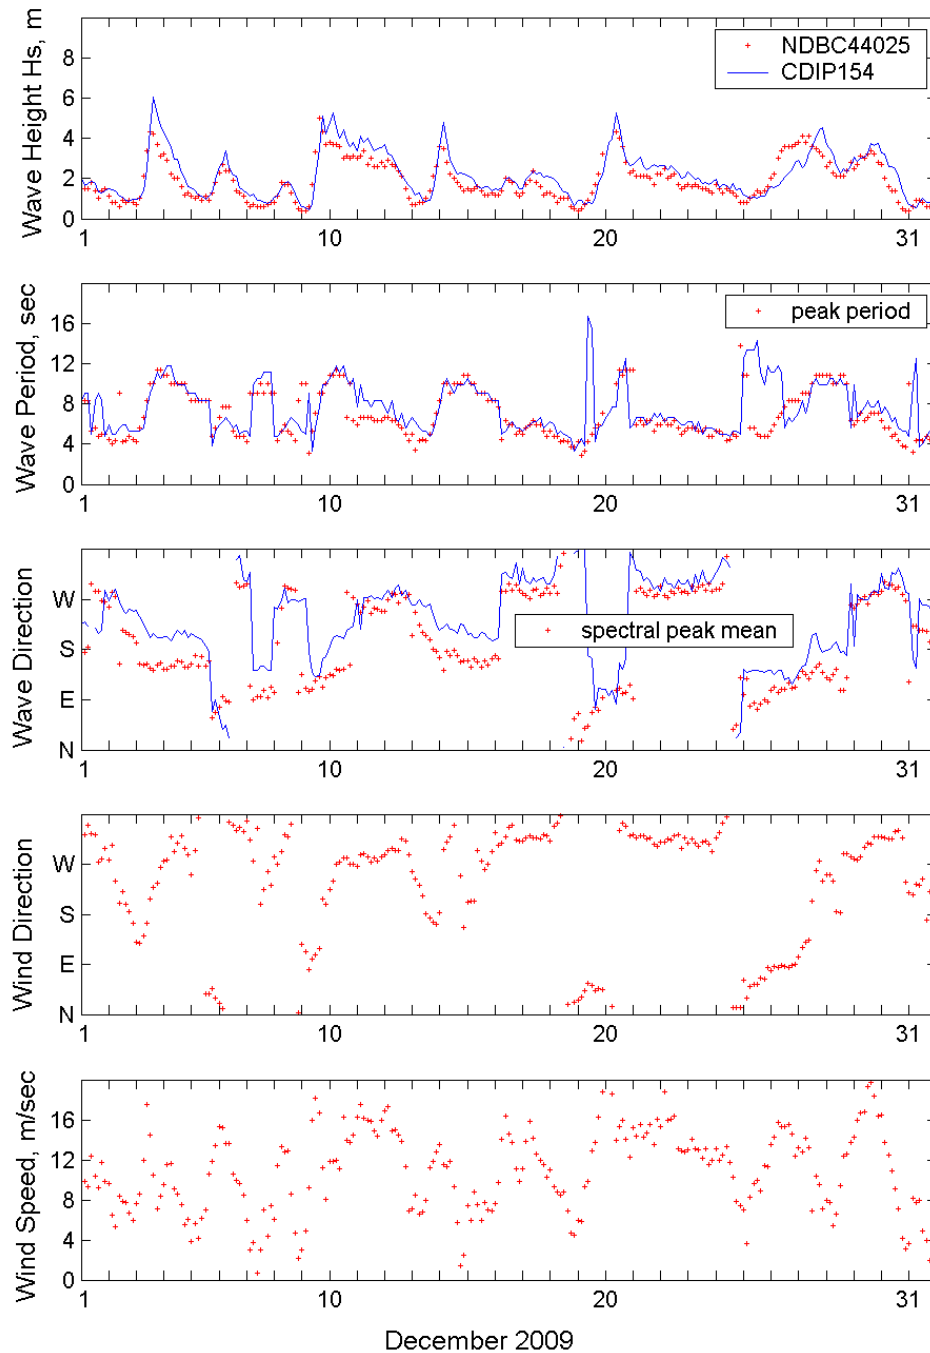

Figure 8.2.5 Run fig2sets.m.
- **fig2sets.m** in MATLAB (or **fig2sets.exe** in the DOS command window) – this code is similar to **fig1set.m** except it is capable of reading and plotting the time series of wind wave data from two or three WIS short format files. Run **fig2sets.m** following similar steps as run **fig1set.m** – see Fig 8.2.5 to plot NDBC 44025 and CDIP 154 (2009-sp154.out) for December 2009.